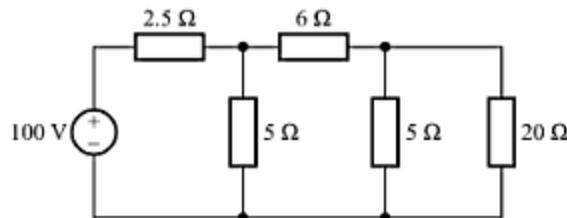

Fig. A-97
- A-61. Find the power absorbed by each of the resistors in the circuit of Fig. A-97.